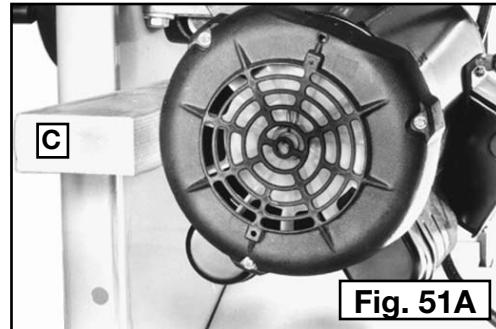

Fig. 51A
3. Place a block of wood (C) Fig. 51A between the motor and the inside of the saw cabinet. Lower the motor against the block of wood until the belt tension is released.
5. Tighten the bolt (A). Replace and tighten the bolt (B).